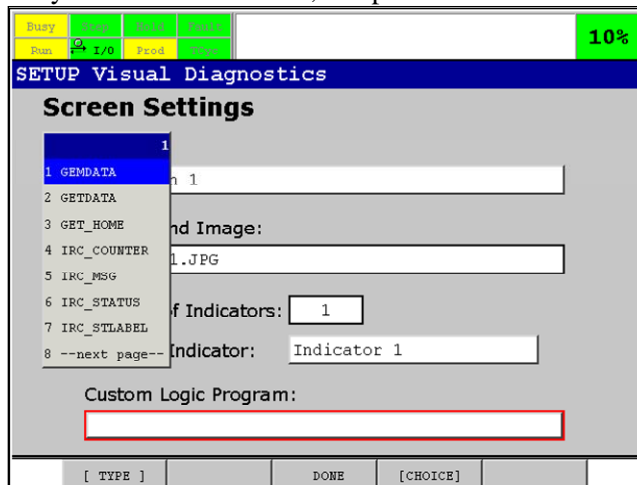

Fig. 51.1 (i) Custom Logic Program Field
- b. Select the program you want from this list, and press ENTER. See the Fig.51.1 (i) for an example.